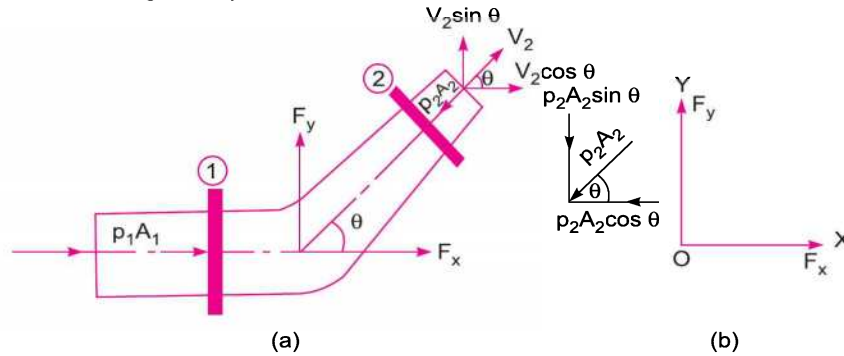

Fig. 6.18 Forces on bend.
Consider two sections (1) and (2), as shown in Fig. 6.18.
- Let  $v_1$  = velocity of flow at section (1),
- $p_1$  = pressure intensity at section (1),
- $A_1$  = area of cross-section of pipe at section (1) and
- $v_2, p_2, A_2$  = corresponding values of velocity, pressure and area at section (2).